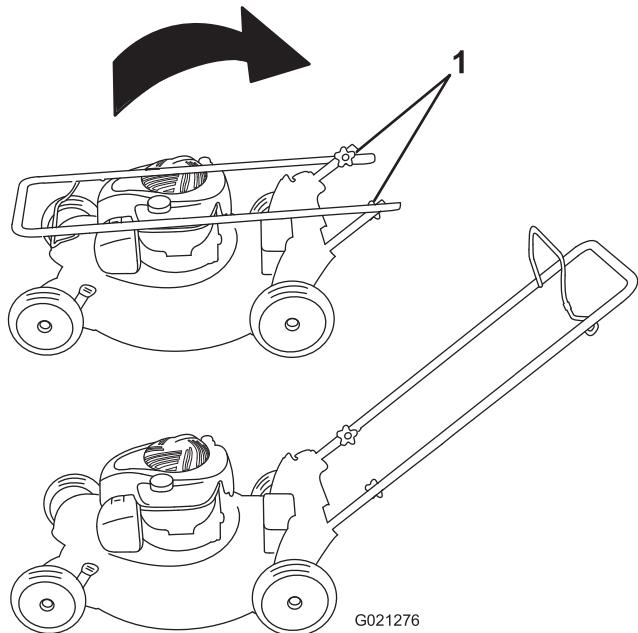

Figure 3
1. Remove the handle knobs from the machine housing (Figure 3).
1. Handle knob (2)
- Install the handle knobs and tighten them firmly by hand (Figure 3).